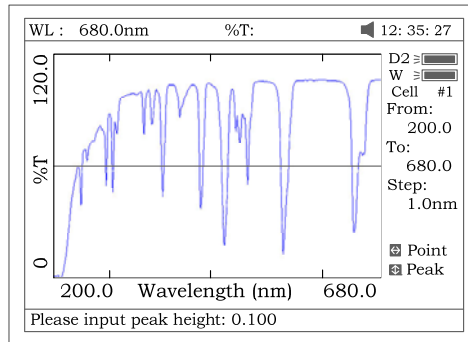
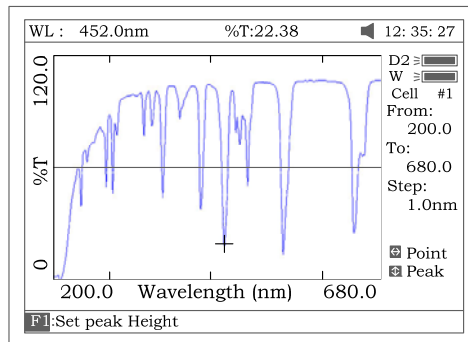

Fig 50
Fig 51
- a) *Peak to peak, press **[F1]** to set “peak height” and input value by pressing the numeric keypad (Fig 50). Press **[<]** to search the peak from left to right and press **[>]** to search from right to left. The value of every peak found will be displayed on the screen one at a time (Fig 51).*